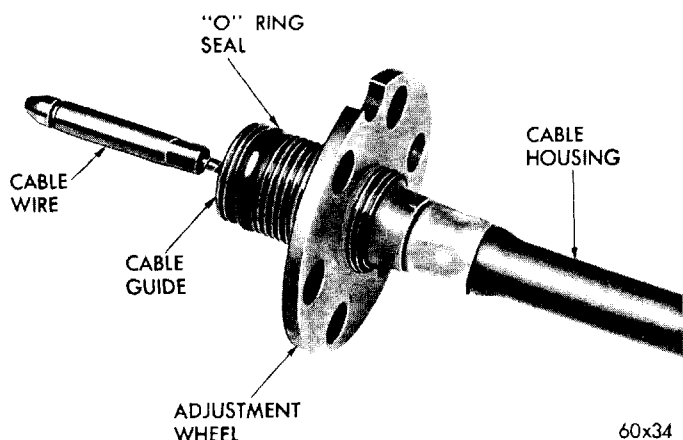

Fig. 12—Gearshift Control Cable and Adjustment Wheel
- (2) Remove control cable adjustment wheel lock screw.
- (3) Remove neutral starting switch, cupped washer and seal.
- (4) Have an assistant firmly hold the R (reverse) button until the transmission end of cable adjustment has been completed.
- (5) Back the adjustment wheel off on cable housing (counter-clockwise) until only two or three threads are showing behind the wheel on the housing (Fig. 12).
- (6) Push the control cable housing into the case with just enough force to overcome the "O" ring friction and to bottom the assembly. While holding the cable with light pressure in the bottomed position, rotate the adjusting wheel to just contact the case squarely.
- (7) Releasing the inward pressure on the cable, re-